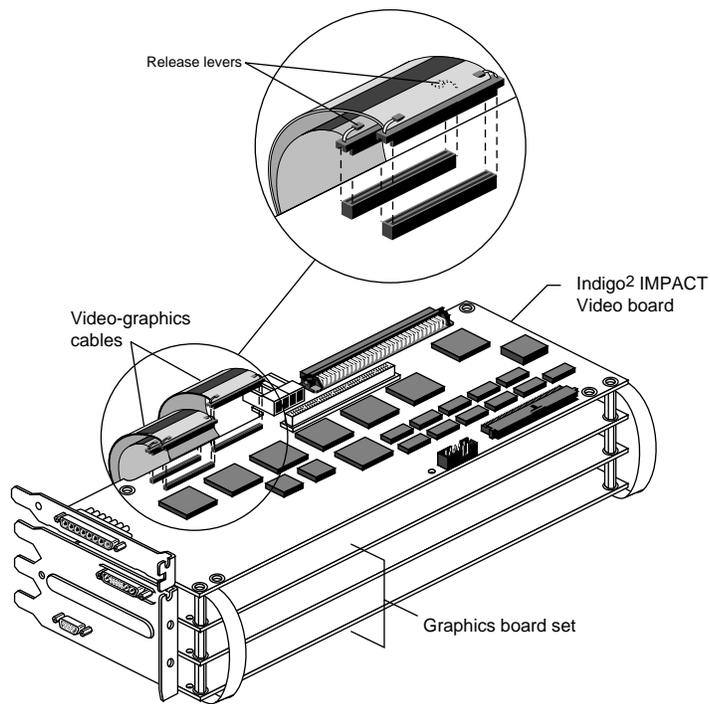

Figure 2-25 Attaching the Video-Graphics Cables to the Video Board
7. Attach the two video-graphics cables to the corresponding connectors on the video board (Figure 2-25).
8. Slip the innermost cable through the outermost cable levers of the two-cable set. See Figure 2-25.